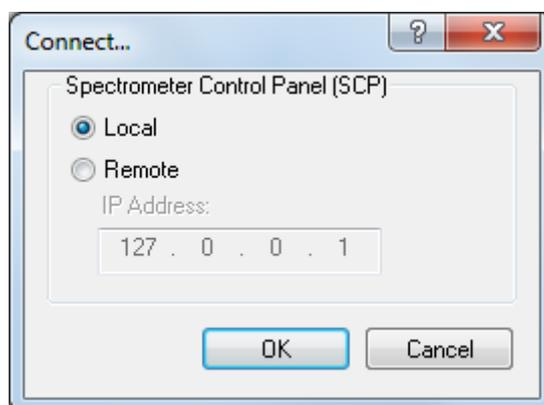

Figure 5.27: the Connect dialog box
- The online status is set by clicking **Go on-line**, which will display the **Connect** dialog box (Figure 5.27) on which you will be asked to supply the SX20 IP Address. It is used when Pro-Data Viewer has been started as a stand-alone program and you want subsequently to establish a link with the spectrometer control program (SCP). If the two programs are running on the same computer, select **Local** in the Connect window. The IP address under these circumstances is always the default 127.0.0.1.